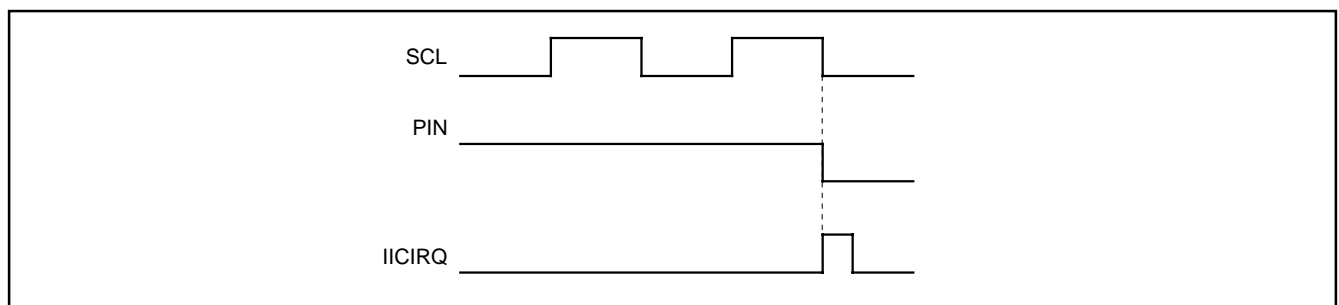

Fig. 8.6.8 Interrupt Request Signal Generation Timing
(5) Bit 4: I²C-BUS interface interrupt request bit (PIN)
This bit generates an interrupt request signal. Each time 1-byte data is transmitted, the state of the PIN bit changes from "1" to "0." At the same time, an interrupt request signal is sent to the CPU. The PIN bit is set to "0" in synchronization with a falling edge of the last clock (including the ACK clock) of an internal clock and an interrupt request signal occurs in synchronization with a falling edge of the PIN bit. When detecting the STOP condition in slave, the multi-master I²C-BUS interface interrupt request bit (IR) is set to "1" (interrupt request) regardless of falling of PIN bit. When the PIN bit is "0," the SCL is kept in the "0" state and clock generation is disabled. Figure 8.6.8 shows an interrupt request signal generating timing chart. The PIN bit is set to "1" in any one of the following conditions.